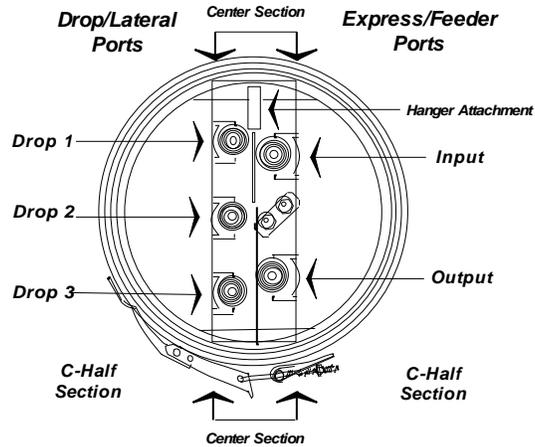

Figure 3 – Cable Port Selection Guide
- 4.5 Installation of Bonding Assembly (if required):** The CGK Clamp-On Grounding Kit consists of (5) five 9.5-inch (24cm) #8 AWG flexible wires. The internal and external grounding lugs, shown in **Figure 3**, are used to terminate the CGK Clamp-On Grounding kit wires. *Steps for installing the grounding wires is in a later section. If 5 grounds are to be isolated from each other than order LG350 FC000009-PS-5G.*
- 5.02** The port closest to the center section's hanger attachment is used for the first cable entering either side. Refer to **Figure 3 – Cable Port Selection Guide**.